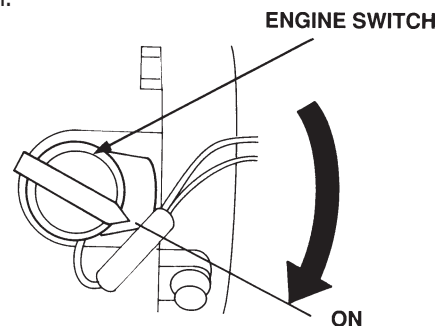

Figure 11. Engine ON/OFF Switch (ON Position)
5. Place the *engine ON/OFF switch* (Figure 11) in the "ON" position.